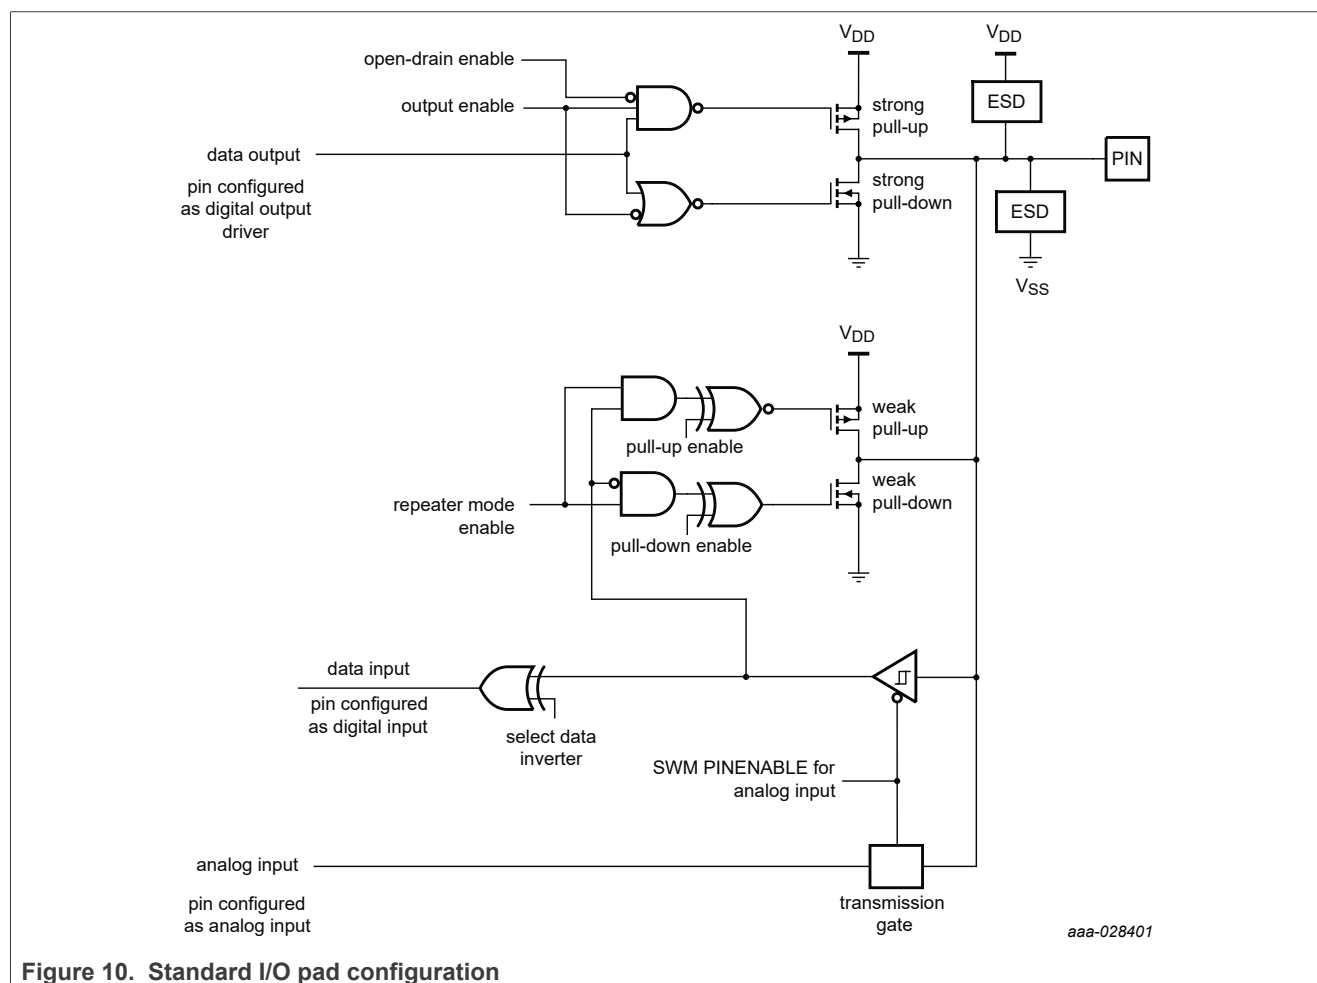

Figure 10. Standard I/O pad configuration
Figure 10 shows the possible pin modes for standard I/O pins with analog input function:
- Pull-up/pull-down configuration, repeater, and open-drain modes can be programmed through the IOCON block for each GPIO pin (see Figure 10).